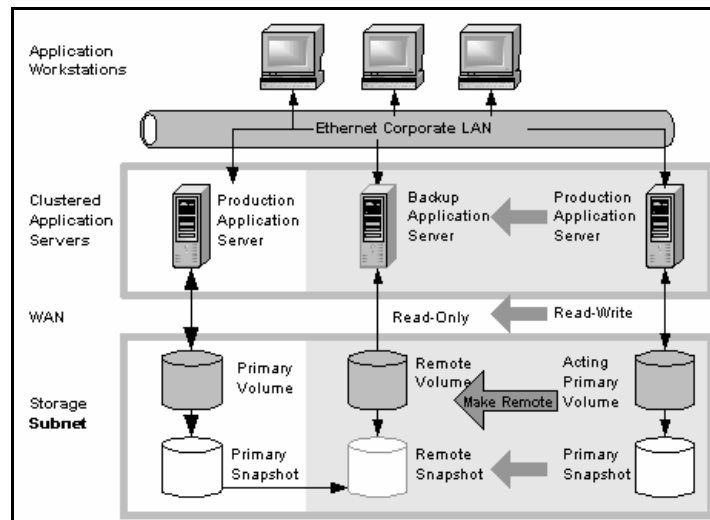

Figure 260. High Availability Configuration During Failback
- Resume operations using the original production server, and return the backup volumes to their original remote status, as illustrated in Figure 260. This will require migration back onto the production volumes of data that was written to the backup volumes since the failure.